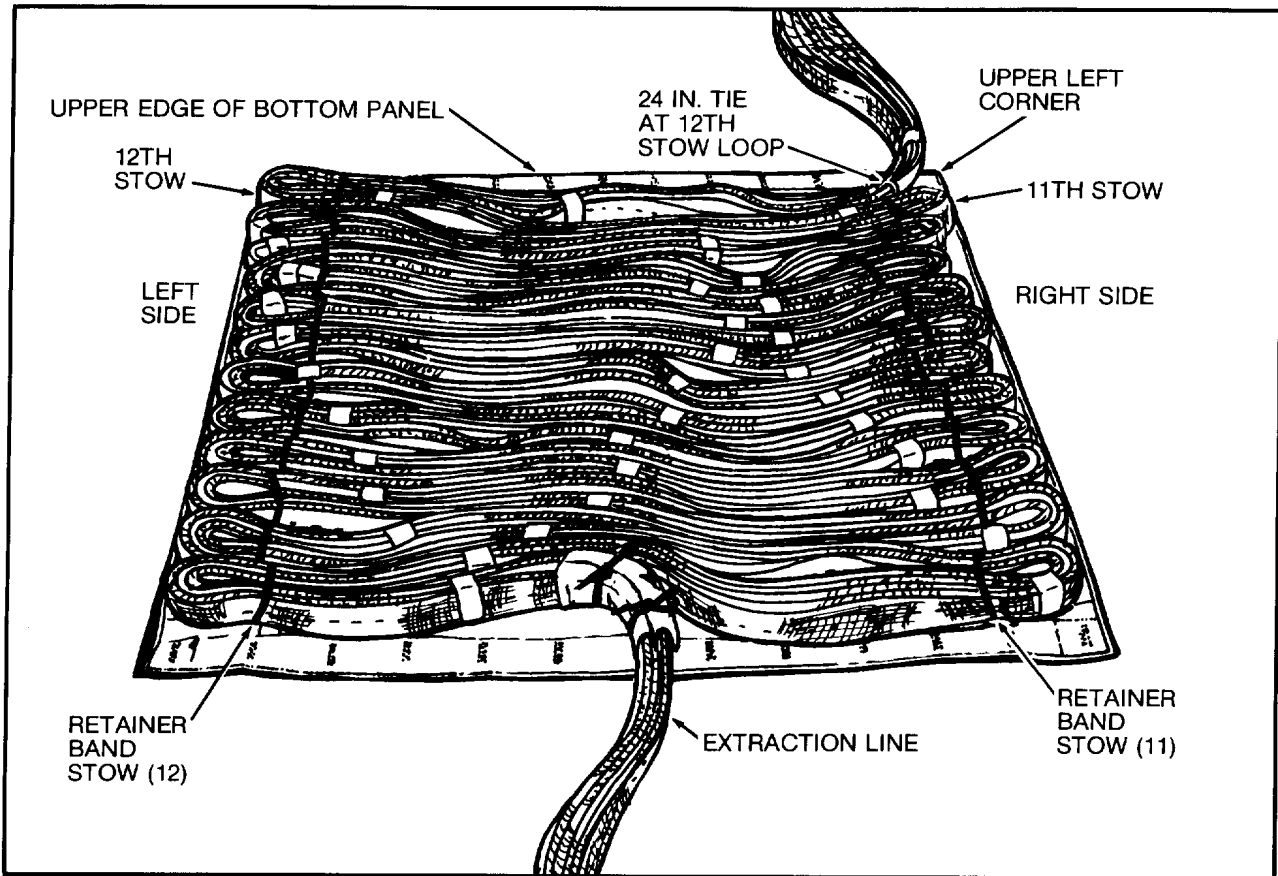

Figure 5. Extraction Line Stowed to Bottom Panel.
- e. Working from left to right, stow and secure extraction line on bottom panel (12 stows on left and 11 on right) with extraction line routed from bottom panel at upper right corner. Secure extraction line at 12th stow loop (right row) with previously installed ¼-inch wide type I cotton webbing. Secure tie with surgeon's knot and locking knot (figure 5).